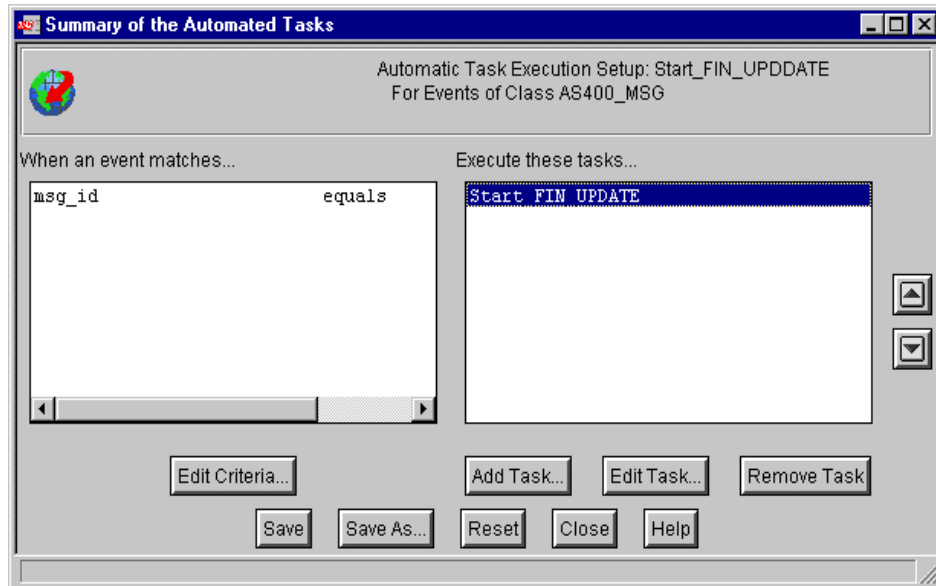

Figure 298. Completed automated task
9. The Summary Of Automated Tasks screen should now look like that in Figure 298 on page 464.